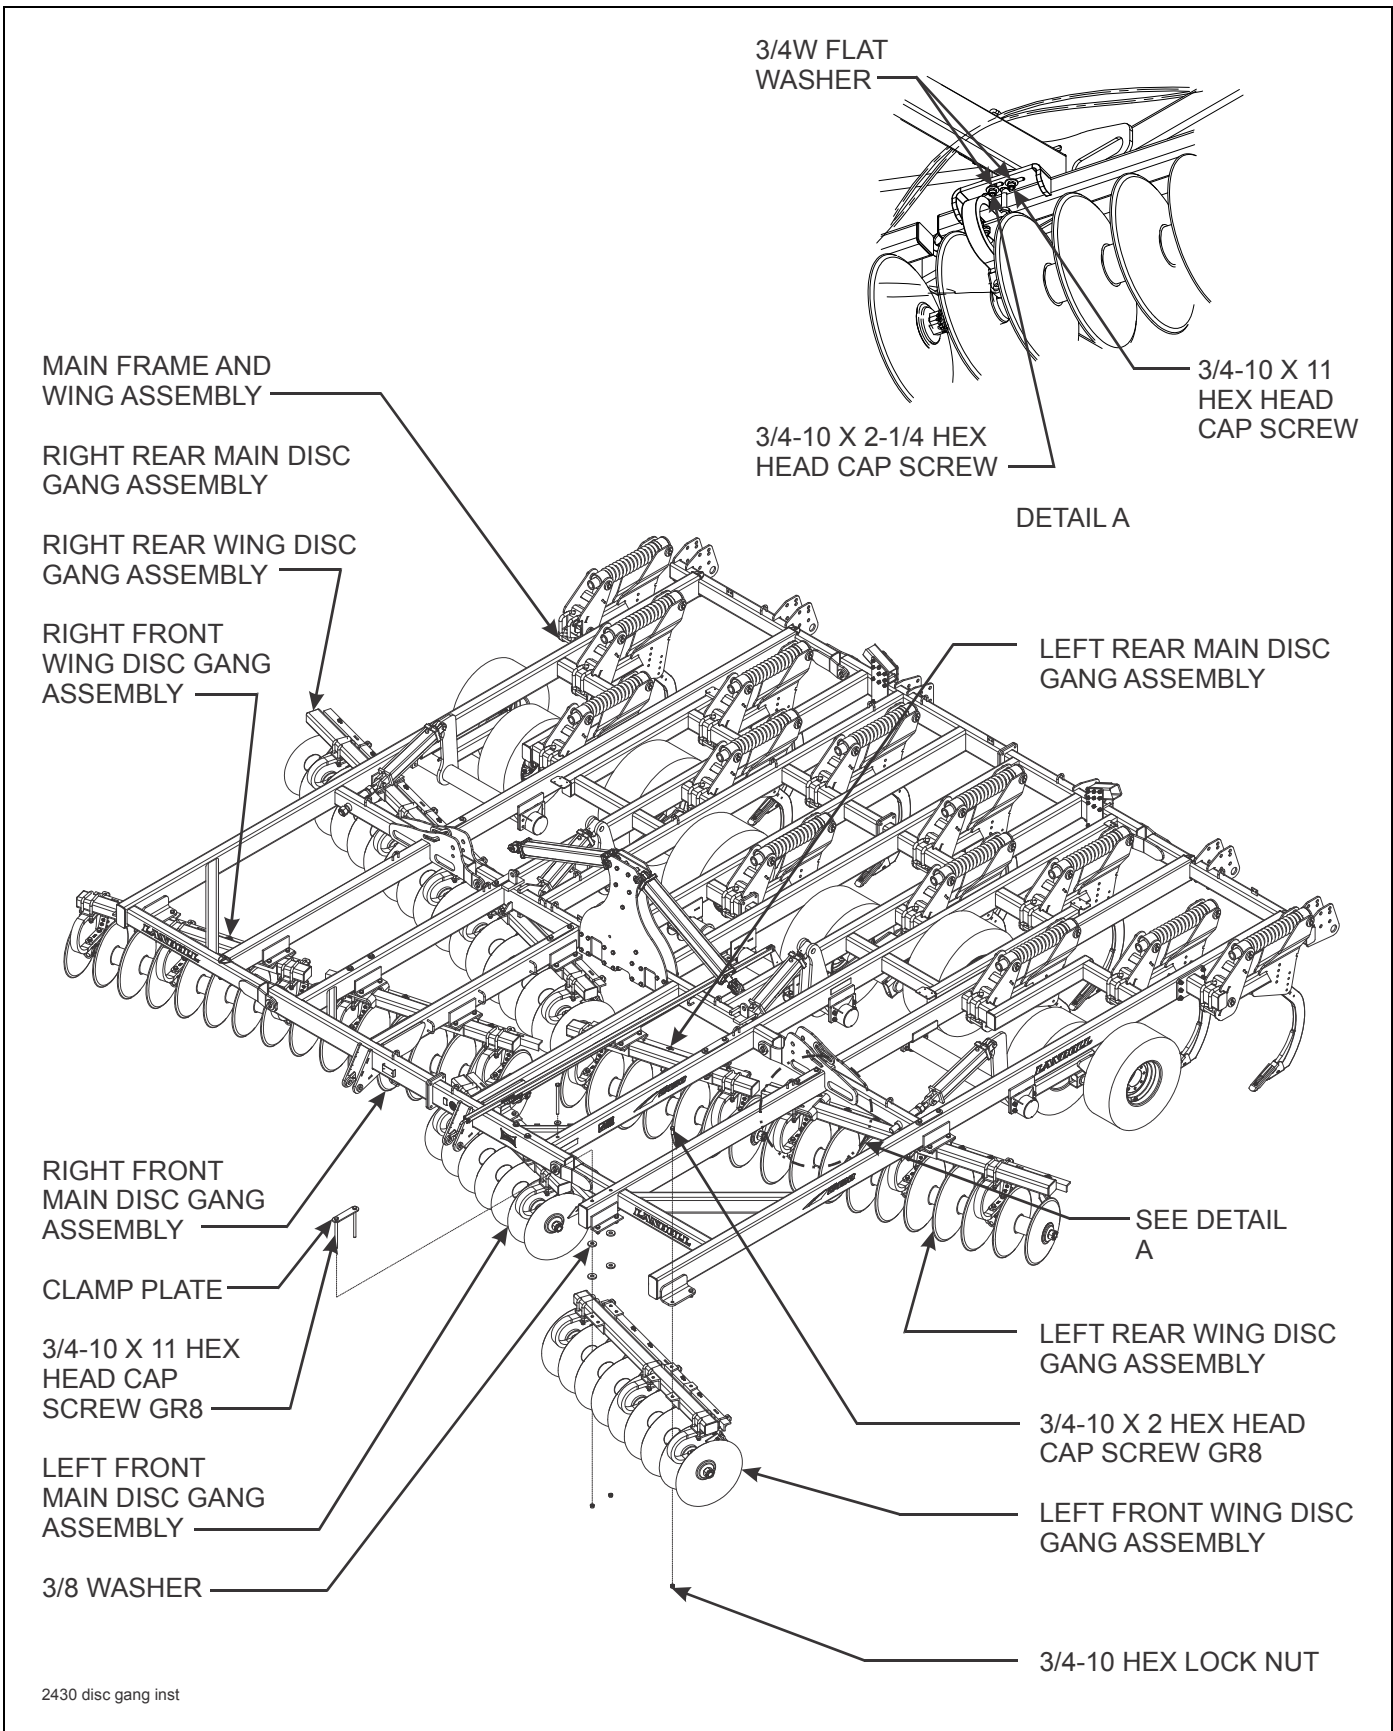

Figure 3-7: Disc Gang Installation - Wings - 2430-11-24 & 2430-13-24
1. Assemble the disc gang assemblies to the center frame using 3/4-10 x 11 grade 8 hex head cap screws, 3/4-10 x 2 hex head cap screws, 3/4-10 x 2-1/4 hex head cap screws, flat washers, and hex lock nuts (**See Figure 3-7.**)